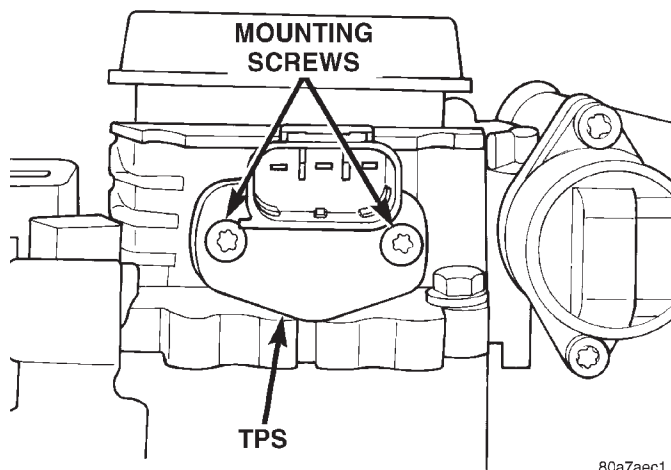

Fig. 43 TPS Mounting Screws
- (1) Disconnect TPS electrical connector.
- (2) Remove TPS mounting screws (Fig. 43).
- (3) Remove TPS.